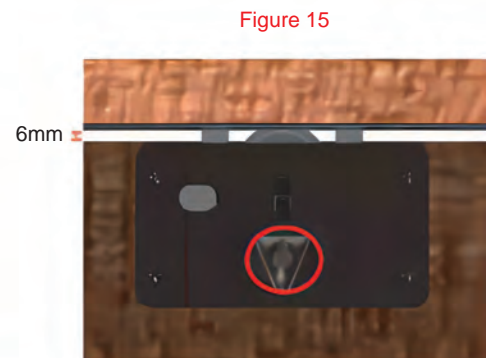

Figure 16
3. Using the allen key, fix the dampers, as guided in **Figure 16**. Ensure both ends and all dampers have been fixed.